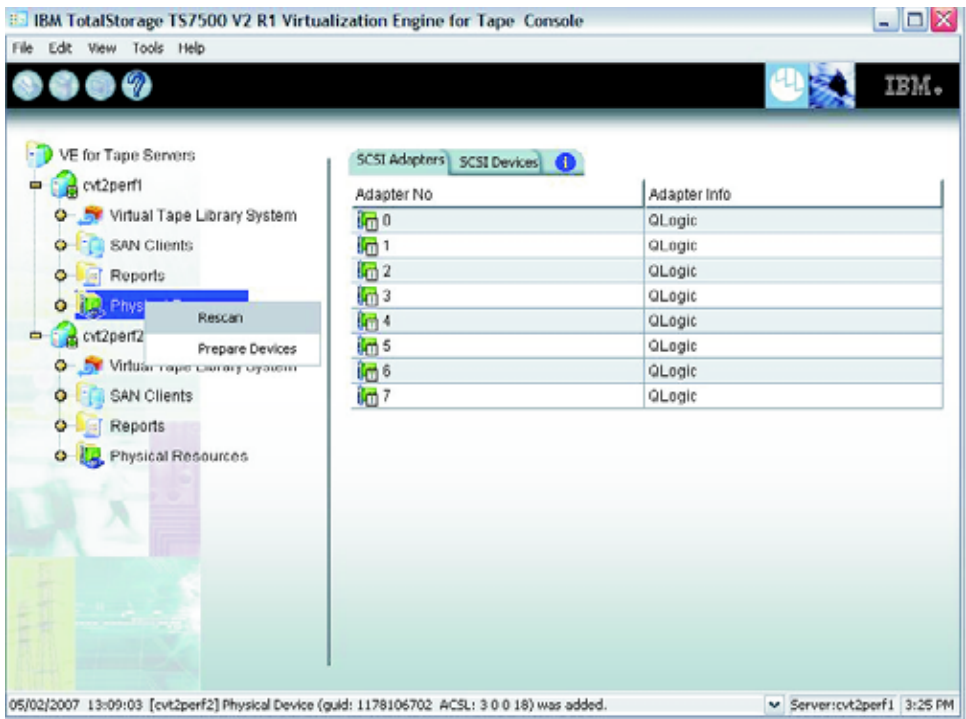

Figure 22. Rescanning physical devices
8. In the VE console (Figure 22):
Warning: If the **Rescanning Physical Devices is required** window (Figure 22 on page 34) reopens, do not rescan. You **must** wait at least 10 minutes before rescanning again. If after rescanning a second time, the **Rescanning Physical Devices is required** window reopens, contact your next level of support.